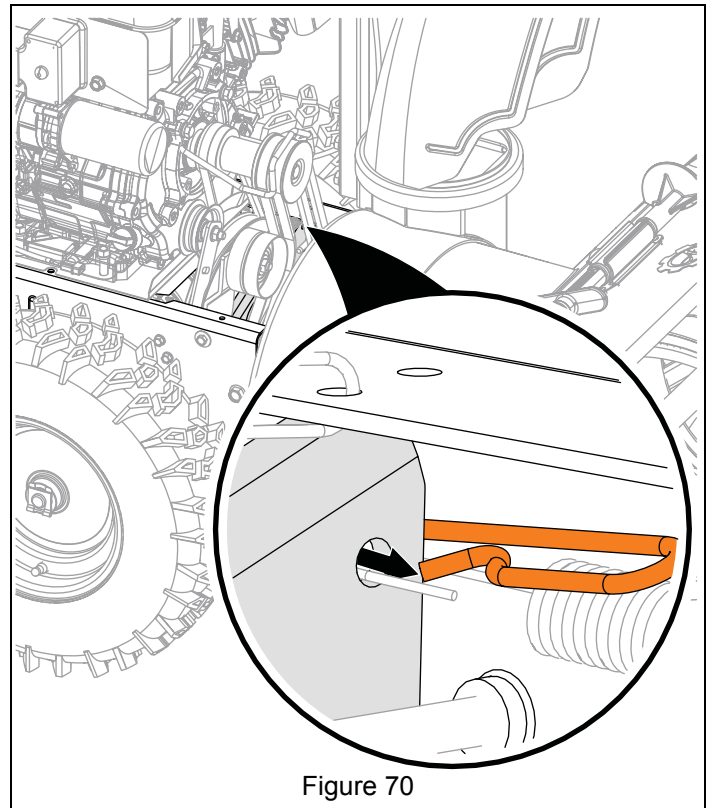

Figure 70
8. Remove lower traction clutch cable hook from swing gate. See Figure 70.